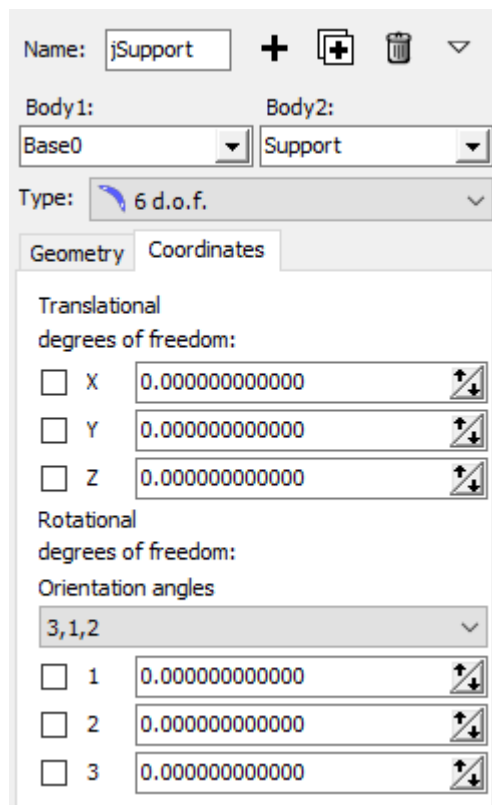

Figure 3.4. Joint for body **Support**
5. Turn off all joint degrees of freedom, thus connect rigidly the support and base, Figure 3.4.